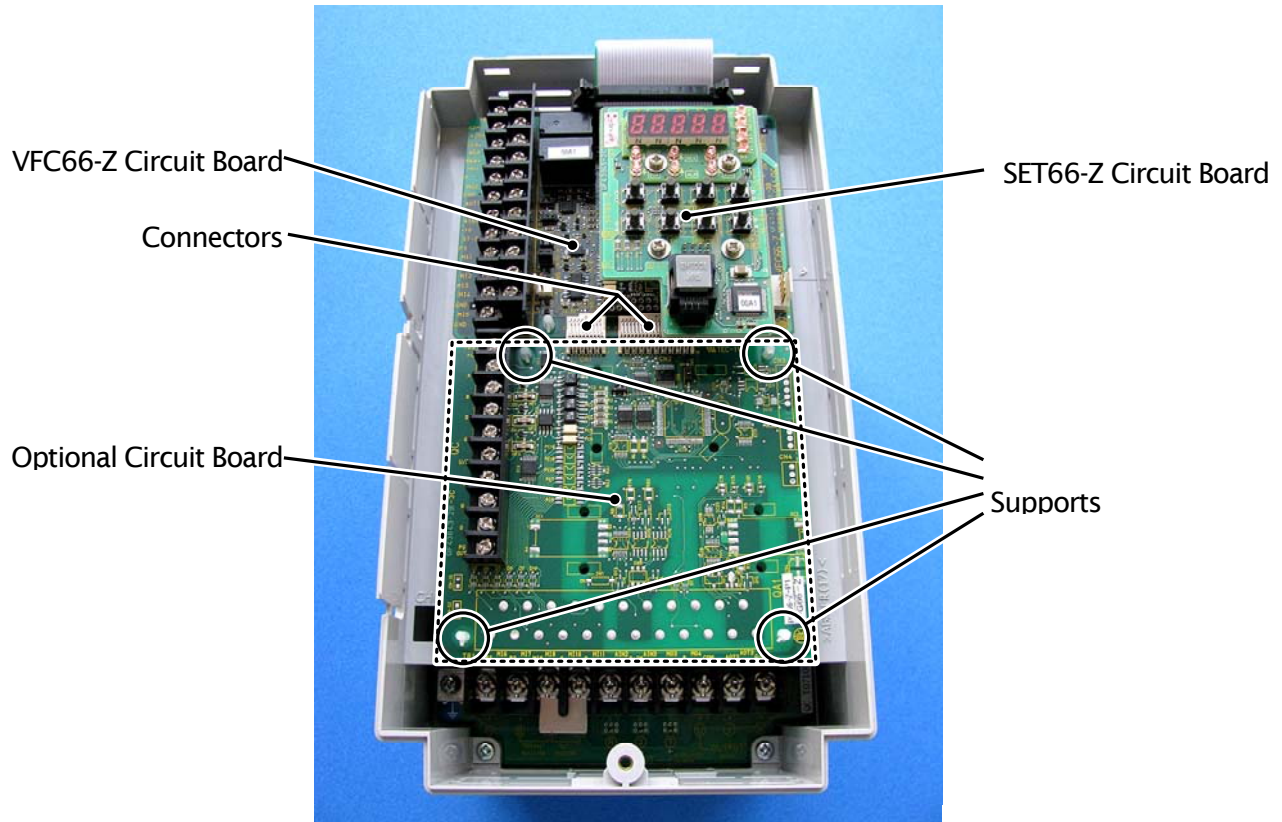
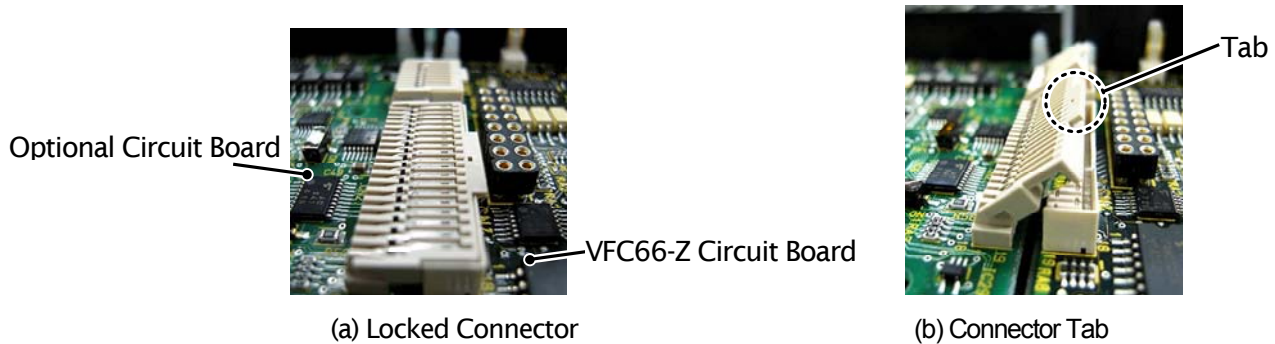
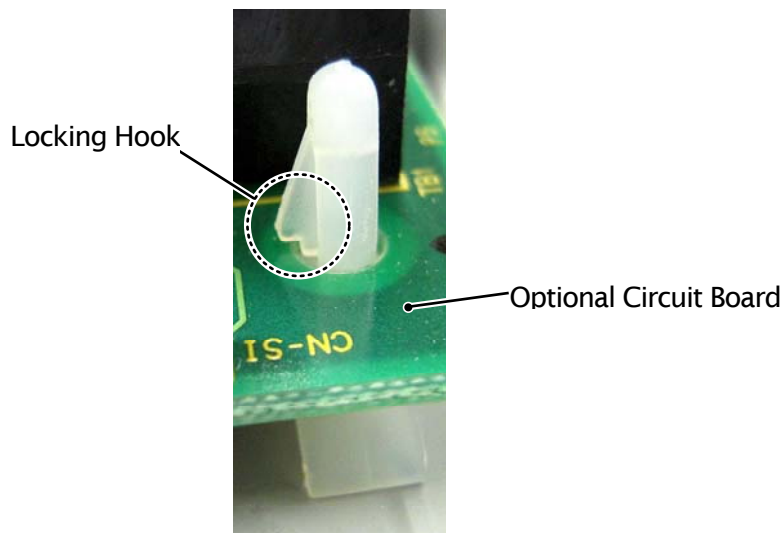

Figure 3.2 Optional Circuit Board Installation Position (VF66B-2R222)
Figure 3.4 Connector
Figure 3.5 Support Locking Hook
- (1) Confirm that the power is off before performing any work
- (2) Install the DNET66-Z board in the location designated by the dotted lines shown in Figure 3.2. (The figure shows the VF66B-2R222 model, however, the installation location is the same for other models.) If another optional circuit board is already installed, remove it by following the procedure described below. If another optional circuit board is not already installed, skip to (6).
- (3) In order to safely remove the optional circuit board, first remove the SET66-Z board. Remove the 4 screws indicated by the circles in the figure on the right. Pull the SET66-Z board away from the VFC66-Z board in order to detach it.
- (4) Next, release the two connectors between the VFC66-Z board and the optional circuit board. Figure 3.4 (a) shows the connector in its engaged position. Pull up the tab to release the connector as shown in Figure 3.4 (b)
- (5) 4 board supports are included to mount the optional circuit board to the inverter housing, as indicated by
the circles in Figure 3.2. Press down on the board support locking hooks as shown in Figure 3.5 to remove the optional circuit board.
- (6) Align the four holes of the DNET66-Z board with the 4 board supports indicated by the circles in Figure 3.2. Push down on the board until the support locking hooks snap into place as shown in Figure 3.5
- (7) Align the tabs (shown in Figure 3.4 (b)) of the DNET66-Z board connectors CN1 and CN2 with the VFC66-Z board connectors CN7 and CN4. Press down on the tabs to engage with the connectors. Once the connectors are correctly joined, it will look like Figure 3.4 (a). The movable part of the connector has some elasticity and if the joint is weak, it may become disconnected. Ensure that it is properly locked in place.
- (8) Install the SET66-Z board to its original position
- (9) Return the inverter unit cover lid to its original position.